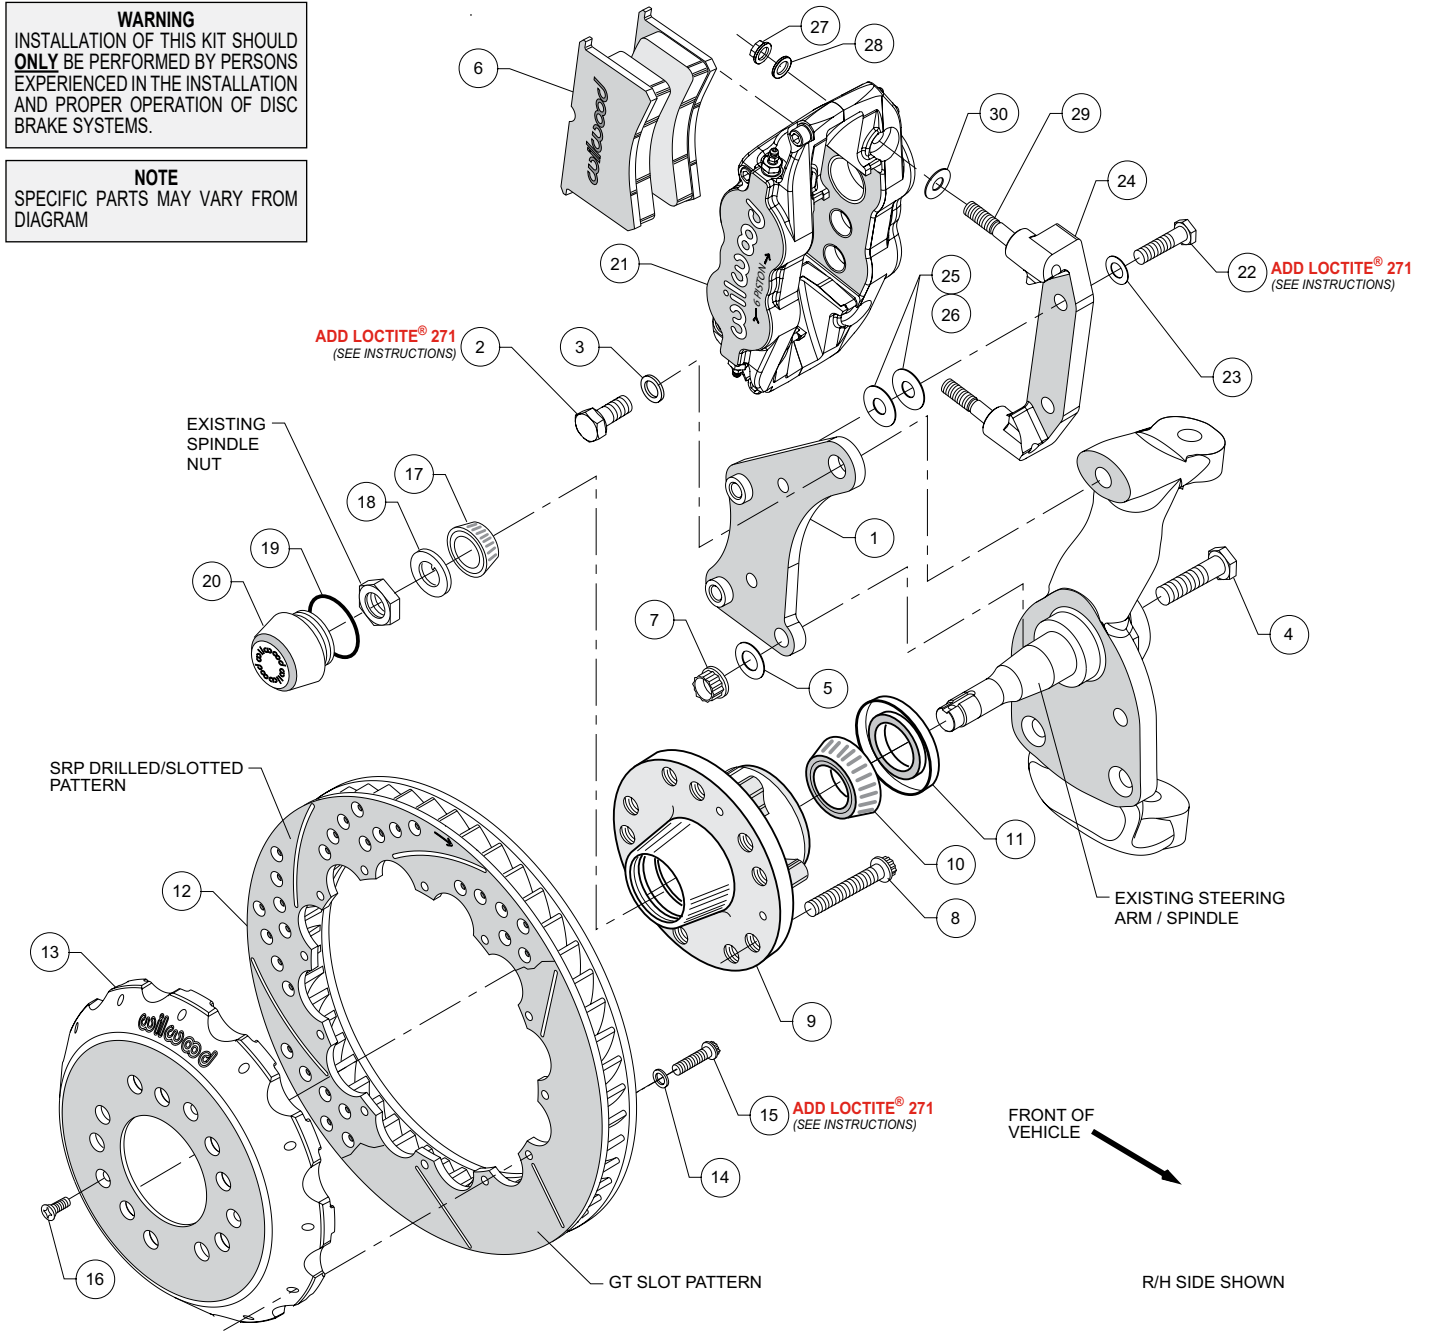

Figure 1. Typical Installation Configuration
- Mount the radial mount caliper bracket (24) to the first “flat” caliper mounting bracket (1) from the far side by sliding bolt (22) through washer (23). Place two .030 thick flat washers (26) between the two brackets (1 and 24) before sliding the mounting bolts (22) all the way into the first caliper mounting bracket (1). Finger tight only.
- NOTE:** This kit contains distinct right and left hand calipers that must be mounted in a specific direction, as described below. Install one shim (30) over each stud (29) on the radial mount bracket (24). Slide the caliper (21) in place over the studs and rotors and install the washer (28) and lock nut (27) to hold the caliper in place, Figure 1. Ensure that the caliper is mounted so that the largest pistons are at the rotor exit end of the caliper, in relation to the direction of rotor rotation. Snug the lock nuts (27) and check that the rotor (12) is centered in the caliper (21). Add or subtract .030” shims (26), or add additional .015” shims (25), as necessary between the radial mount bracket (24) and the flat bracket (1) to center the caliper. Finger tighten and recheck alignment. Use as many shim washers (combination of 25 and 26) as necessary to achieve the correct alignment. Apply red *Loctite*® 271 to bolt threads (22) and torque to 60 ft-lb.